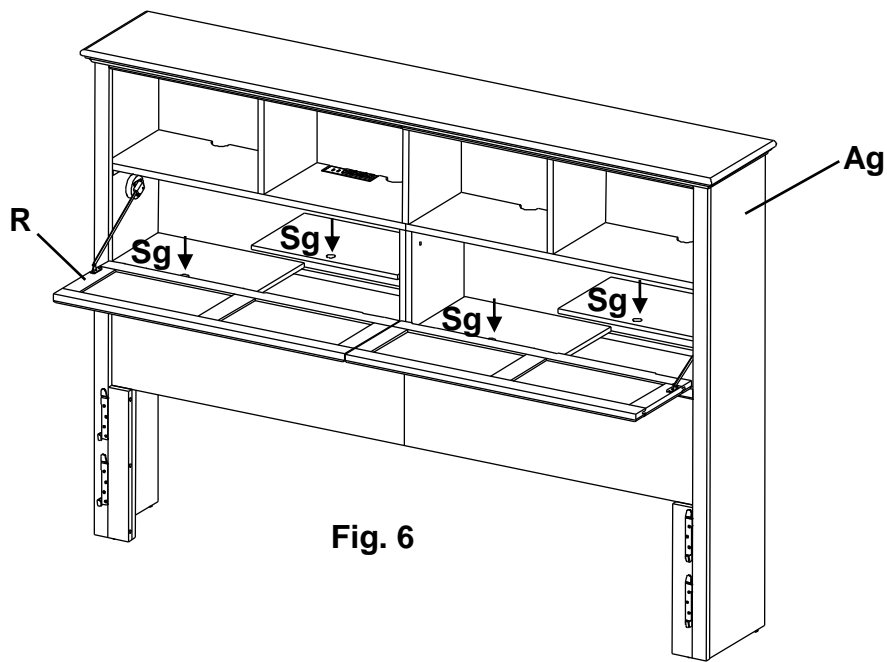

Fig. 6
6. Unwrap the False Bottoms (Sg) and place them on top of the rails in the Headboard Assembly (Ag). Make sure the finger holes face forward as shown in Figure 6. After you have placed your electronics inside the cubbies, use the Wire Clips (ZS) on the underside of the cubbies to secure the wires. Close the door tightly making sure the magnetic catches and plates securely touch.